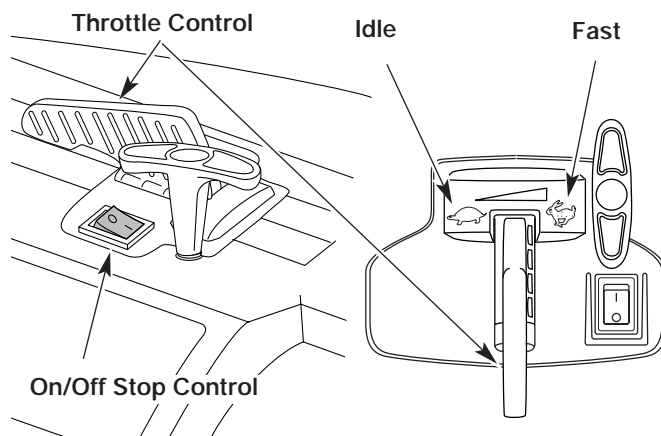
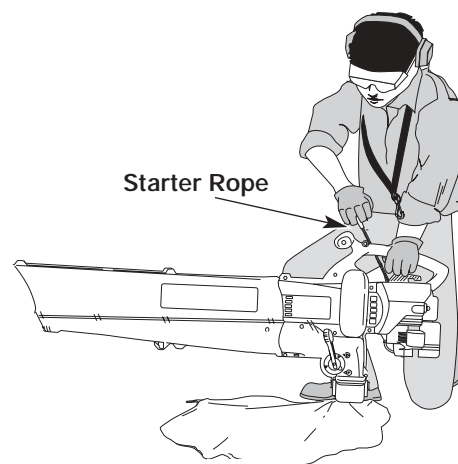

Fig. 9
Fig. 11
**WARNING:** Avoid accidental starting. Make sure you are in the starting position when pulling the starter rope (Fig. 11). To avoid serious injury, the operator and unit must be in a stable position while starting.
5. Place the unit in the starting position (Fig. 11). Move the throttle control to the fast position (🐿) (Fig. 9).
8. Pull starter rope briskly 1 to 3 times to start the engine (Fig. 11).
**NOTE:** If the engine floods while trying to start, place the choke lever in Position **C**. Move the throttle control to the fast position (🐿). Pull the starter rope briskly. The engine should start with three (3) to eight (8) pulls.
**NOTE:** Choking is unnecessary when starting a warm engine. Put the throttle control in the fast position (🐿) (Fig 9) and start unit with the choke control in Position **B**.
1. Press the On/Off Stop control in the **STOP (O)** position until the engine comes to a complete stop (Fig. 9).